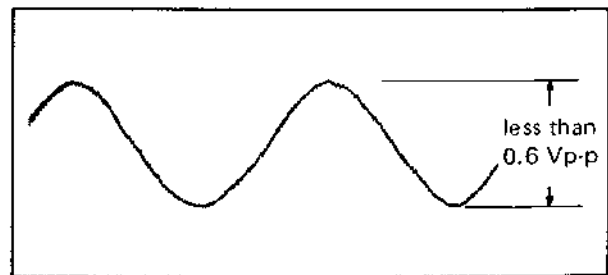

Fig. 5-10 Drum motor ripple
2. Connect oscilloscope to TP-16 (D. MOTOR IN) of the SERVO board. Confirm ripple of less than 0.6 Vp-p. See Fig. 5-10.